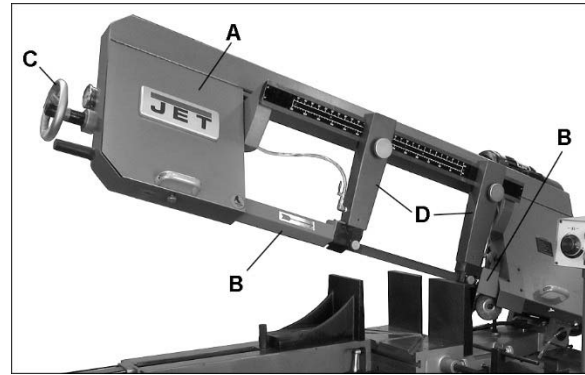
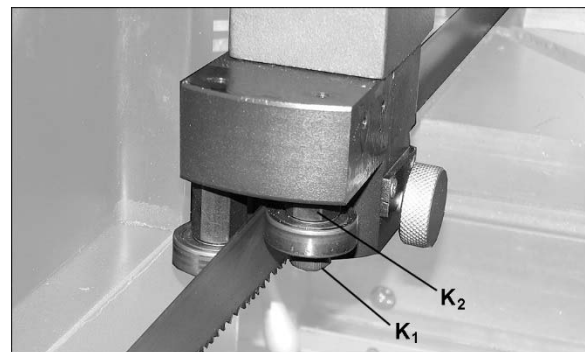

Figure 7-1: blade changing
Figure 7-2: blade guide bearing adjustment
Refer to Figure 7-1.
3. Open both wheel covers (A, Figure 7-1) and clean out any swarf from wheel areas.
4. Remove red blade guards (B).
5. Back off the blade guides by loosening knob (H, Figure 7-2). Back off the wire chip brush.
6. Release blade tension by turning blade tension handwheel (C) counter-clockwise.
9. Position new blade around wheels and through upper slot. Slide it into blade guide bearings with back edge of blade contacting backup bearing. (see Figure 7-2). For further guide bearing adjustment, see sect. 7.3
10. Lightly increase tension (C) and position blade so it rests against shoulder of both wheels.
12. Reinstall blade guards (B).
The blade guide posts (D, Figure 7-1) must be set to just clear the workpiece, but should not interfere with workpiece or other saw components during bow's descent.
Refer to Figures 7-2 and 7-3.
2. To adjust eccentric bearings, loosen hex socket cap screw (K1, Figure 7-2) about one full turn.